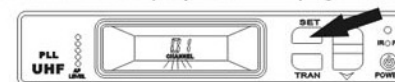

FIGURE 13
a.Press SET button, the CHANNEL display will flash (Figure 13)